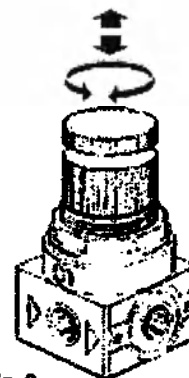

Fig. 2
- Adjust the air pressure in the regulator (Fig.2);